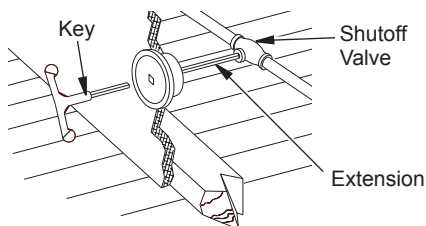

Figure 14 - Typical Exterior Wall Gas Shutoff Installation
A manual shutoff valve has been included in the appliance's gas supply system. You may consider installing an extra gas shutoff valve outside the appliance's enclosure (check with local codes) where it can be accessed more conveniently with a key through a wall as shown in Figure 14.
5. Close shutoff valve (see Figure 14, page 9).
3. Close shutoff valve (see Figure 14, page 9).